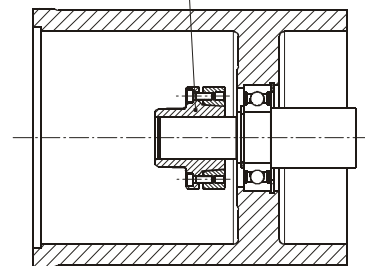
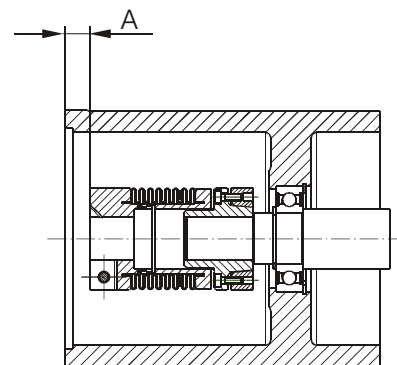

Fig. 10
Fig. 11
Installation Independent of Type (Figs. 10 to 13)
Also check whether the shaft projects at least 2/3 of the hub length into the hub (see Fig. 10).
3. Plug the coupling together and determine the distance dimension "A" between the housing flange and the coupling, see Fig. 11.
primeflex®-couplings compensate for angular, axial and radial shaft misalignments (Fig. 10) without losing their backlash-free function. However, the permitted shaft misalignments indicated in Table 1 must not simultaneously reach their maximum value. If more than one kind of misalignment takes place simultaneously, they influence each other. This means that the permitted misalignment values are dependent on one another (Fig. 11). The sum total of the actual misalignments in percent of the maximum value must not exceed 100 %.